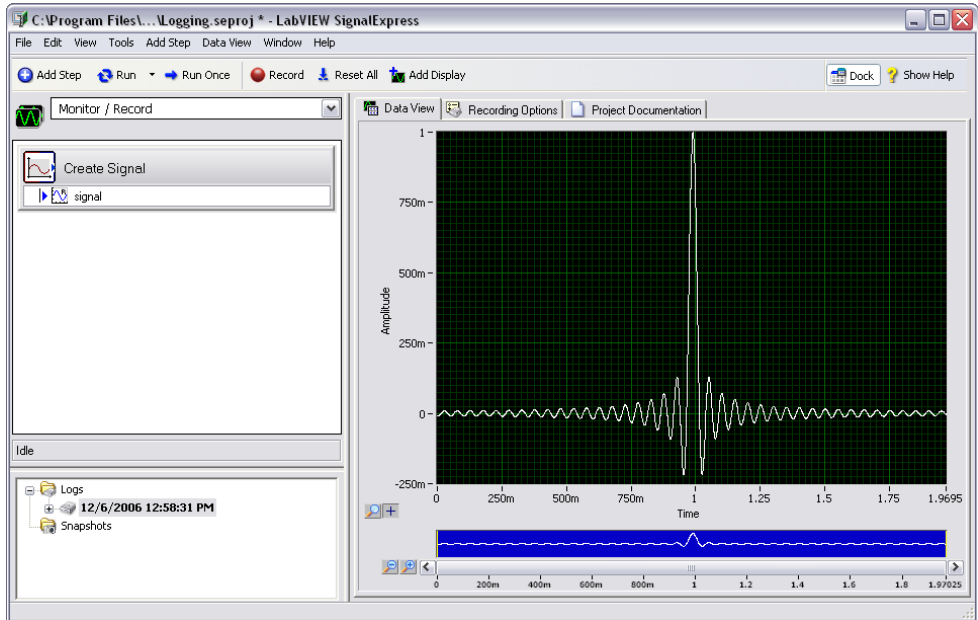

Figure 5-2. Logging.seproj
2. The **Logged Data** window displays a list of all logged data in the current project. Select the data log you just recorded from the **Logged Data** window and drag it into the Data View. The Data View displays the logged data and a preview graph, as shown in Figure 5-2. The signal displayed in the Data View may differ from the signal displayed in Figure 5-2, depending on how long you record the signal.